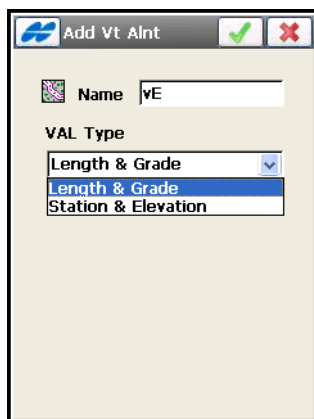

Figure 7-14. Add Vertical Alignment
1. Tap the **Add** button to add a new vertical alignment. The *Add Vt Alnt* screen displays (Figure 7-14 on page 7-12).
2. On the *Add Vt Alnt* screen (Figure 7-14 on page 7-12), enter the name of a new vertical alignment.
1. For Long Sections vertical alignment types, only enter the vertical alignment name in the *Start Pt* tab of the **Add Vt Alnt** screen (Figure 7-14 on page 7-12).